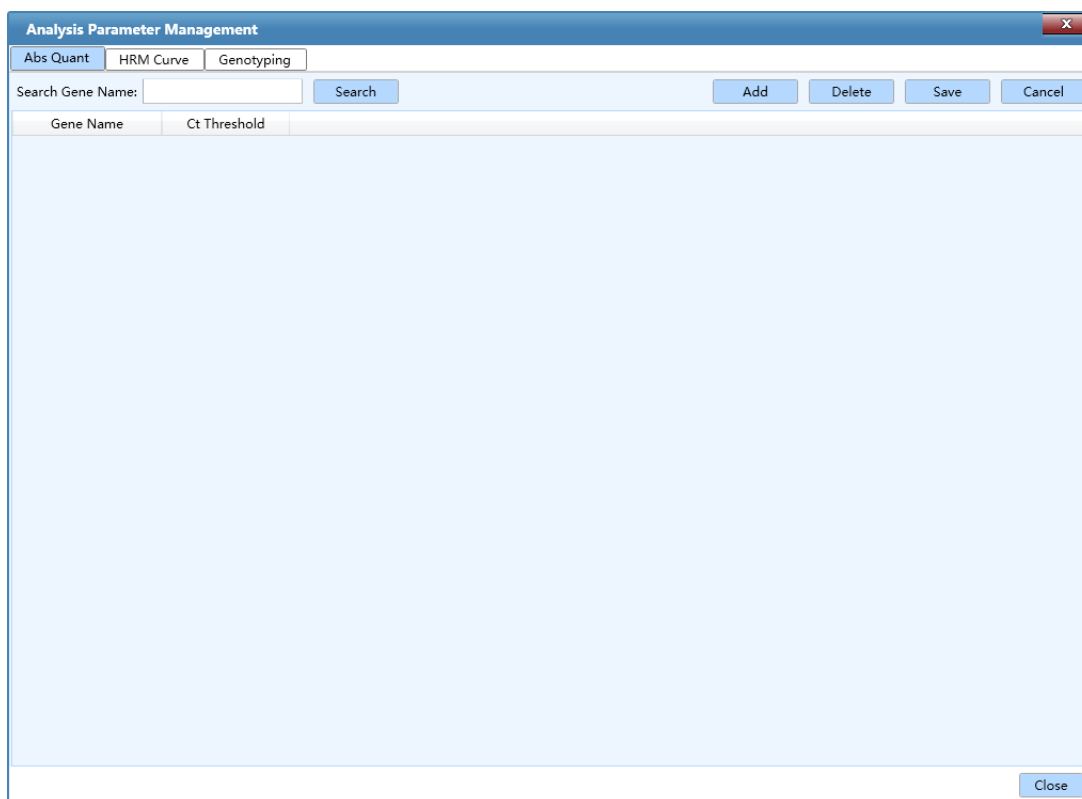

Figure D-3.10a. Parameter Management Interface - Abs Quant Tab
- **Abs Quant** tab: the analysis parameter management interface displays the **Abs Quant** tab by default, as shown in figure D-3.10a. User can manage the analysis parameters of specific or multiple genes for absolute quantitative experimental results analysis.